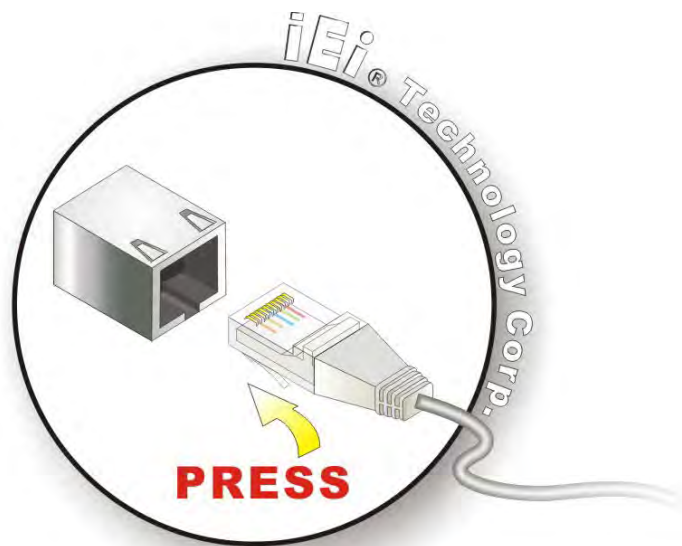

Figure 4-16: LAN Connection
Step 2: Align the connectors. Align the RJ-45 connector on the LAN cable with one of the RJ-45 connectors on the IMB-H610. See **Figure 4-16**.